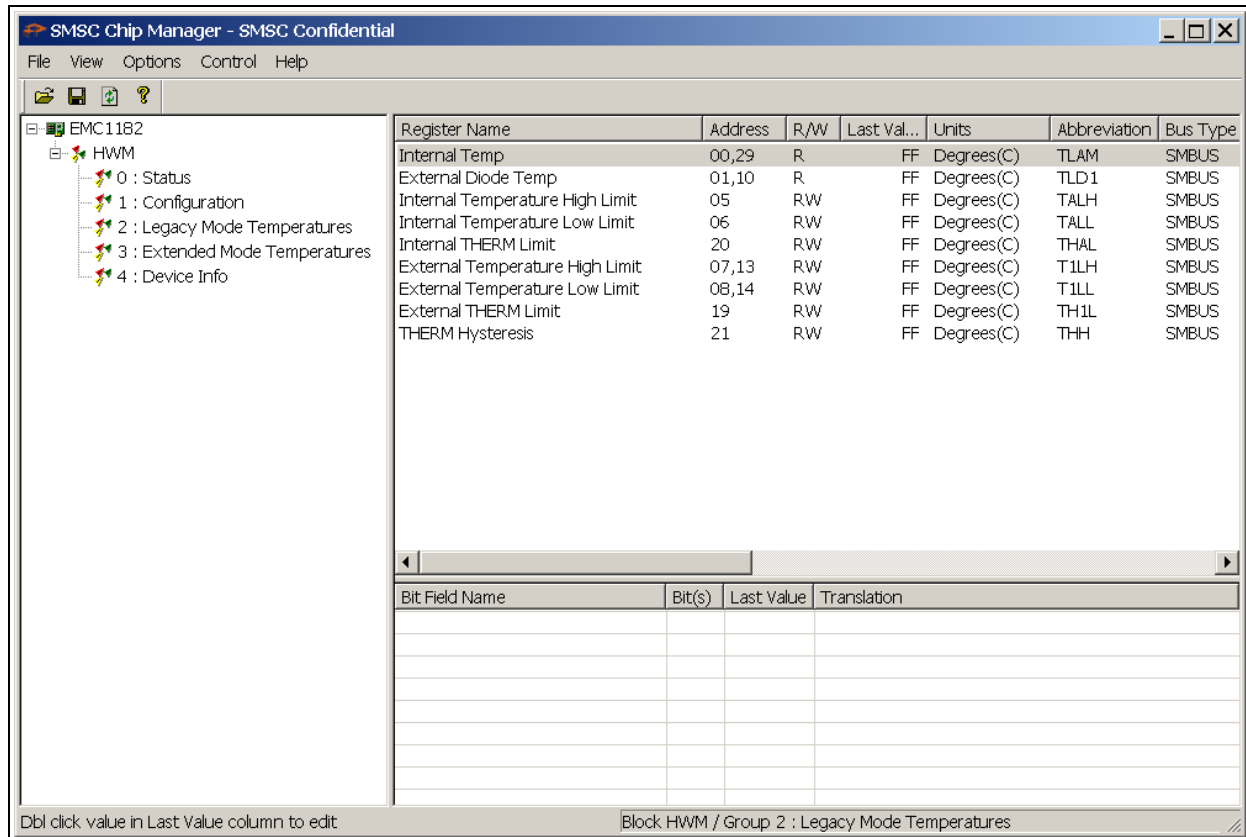

FIGURE 2-9: Chip Manager Register Groups.
- From the Chip Manager main menu, ensure that Options > Auto refresh Registers is checked. In the left panel, click the hardware monitor (HWM) to expand the content, then select any of the register groups, as shown in Figure 2-9. The USB Activity LED on the board starts blinking when any of the register groups are selected. The register values are automatically updated every second when the Auto Refresh option is on.